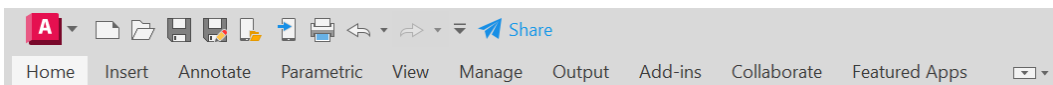

Figure 1.9: The ribbon display using Minimize to Tabs
- **Minimize to Tabs (third click):** After the third click of the ribbon settings button, you will set the ribbon to Tabs. There are now no panel buttons or titles displayed, only the ribbon tabs. This is the most minimal view of the ribbon in AutoCAD as you can see in *Figure 1.9*.